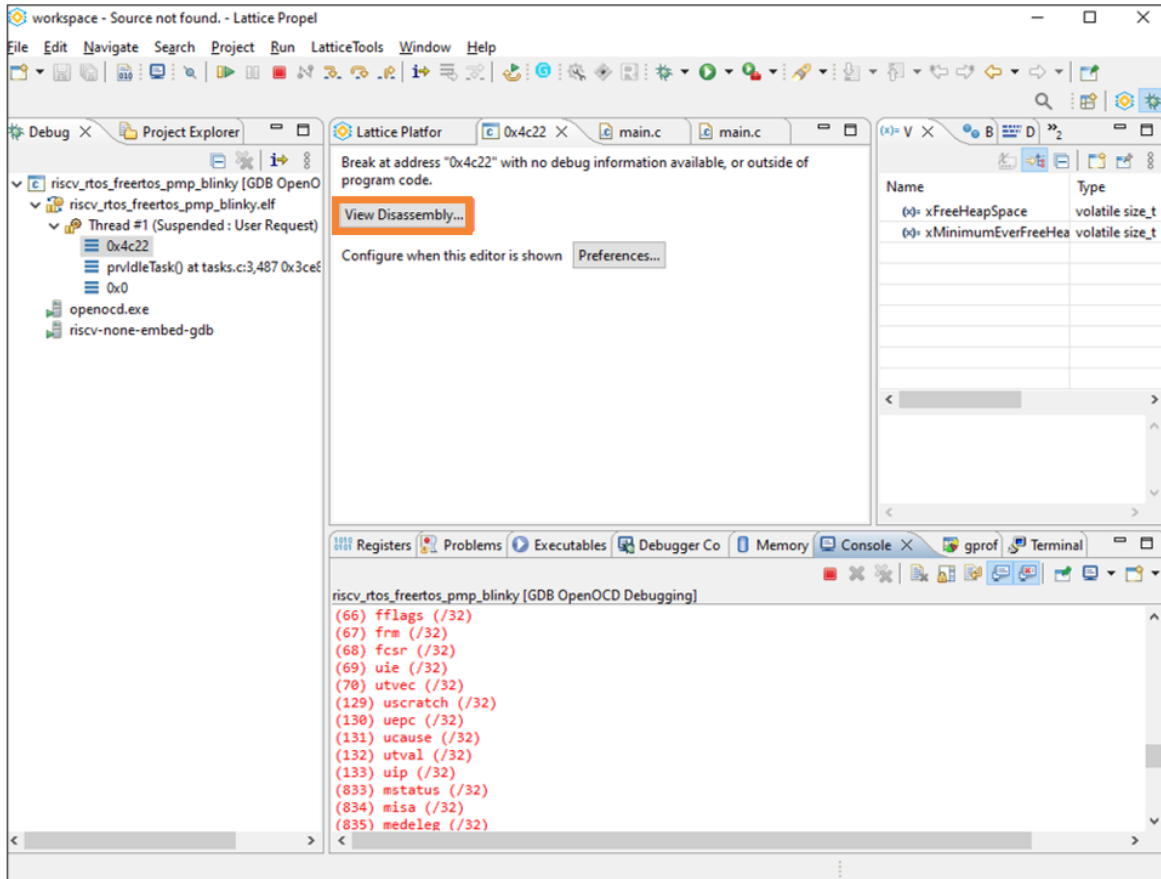

Figure E.3. Debug Perspective 2
4. Wait for a few seconds for the debug perspective to appear, as shown in Figure E.3. Click **View Disassembly** to display assembly code or C code.